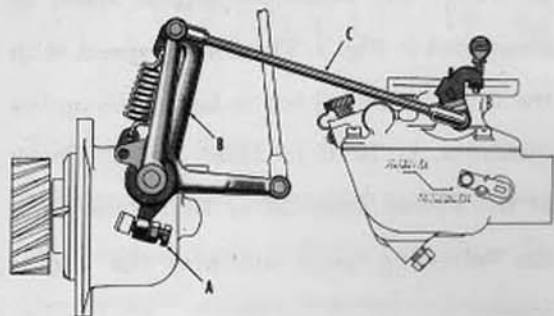
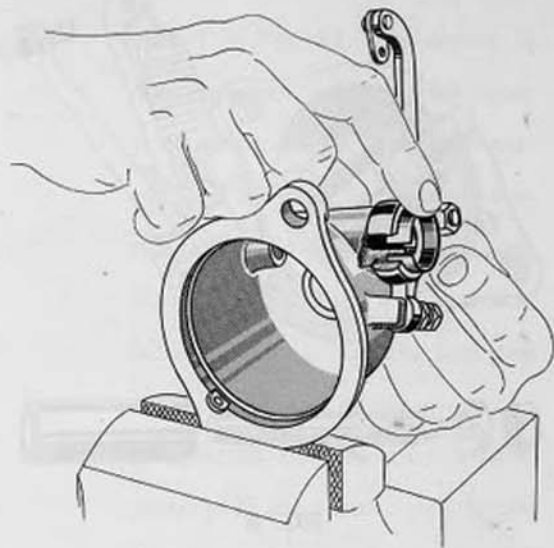

FIG. 2
FIG. 7
3. If engine speed exceeds 2200 R.P.M., screw in the adjusting stop-screw, "A," Fig. 2, until full throttle speed is 2200 R.P.M. with the throttle control rod in the last notch on the quadrant.
(a) Check governor adjusting stop screw, "A," Fig. 2. If the adjusting screw is against the governor stop, back out the screw until it does not make contact with the governor housing stop. Check the speed and if 2000 R.P.M. is not obtained, proceed with next step.
1. Disconnect the governor to carburetor rod "C," Fig. 2, at the carburetor.
3. Inspect the carburetor to governor rod, "C," Fig. 2. Check to see that the ball joint springs in each end of rods are free from rust, paint, or foreign material. These springs must act freely. They must *not* bind where
- (d) Check the looseness of inner governor arm assembly, "B" Fig. 2, on the governor housing. If loose, make and insert a shim as illustrated in Fig. 7. The shim size is $\frac{1}{2}$ " wide, $2\frac{7}{8}$ " long, and sufficiently thick to eliminate the looseness. If the complete shim cannot then be inserted, cut the length in half and insert only half of the shim.